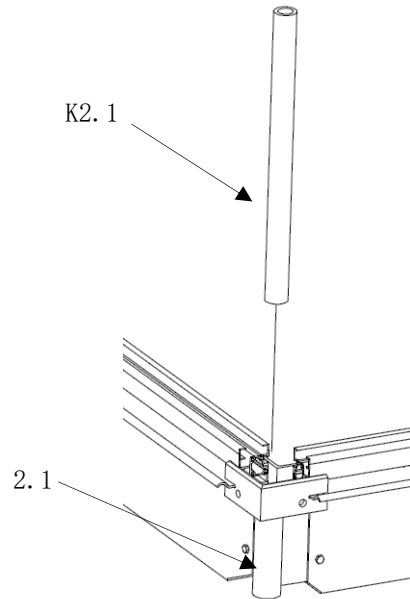

fig. 10
(fig. 10)
- The next steps are to be carried out as described in **fig. 10, 11 and 12**.